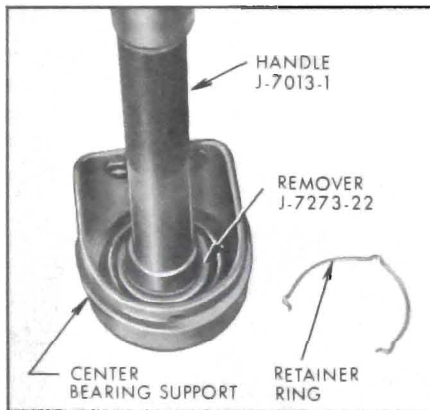

Figure 6-50—Removing Center Bearing from Support
3. Remove the retainer rings from the bearing assembly, and remove the center bearing with the assistance of Remover J-7273-22 and Handle J-7013-1 (Flight Pitch Tools). See Figure 6-50.